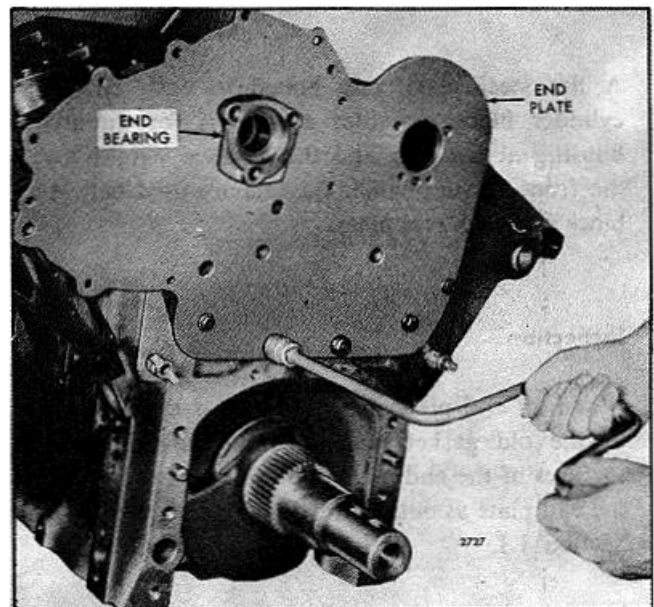

FIG. 3 - Installing Front End Plate (8V Engine)
4. Insert the right bank camshaft end bearing through the SMALL bearing bore in the end plate and into the bore of the block to accurately align the end plate with the cylinder block as shown in Fig. 3.